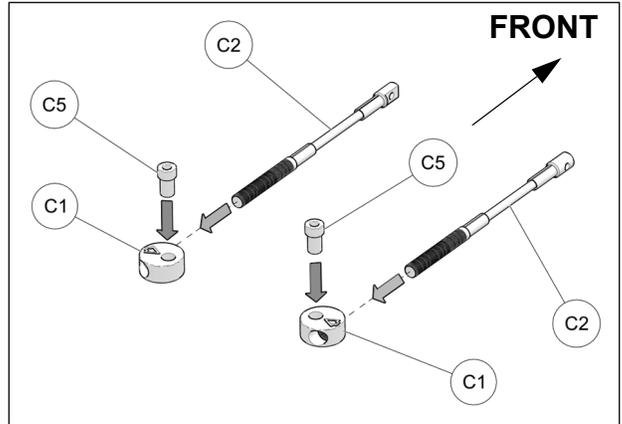

Fig. 27
14. Assemble steering limiter cables (C2), aluminum disks (C1) and step spacers (C5) together as shown on Fig. 27